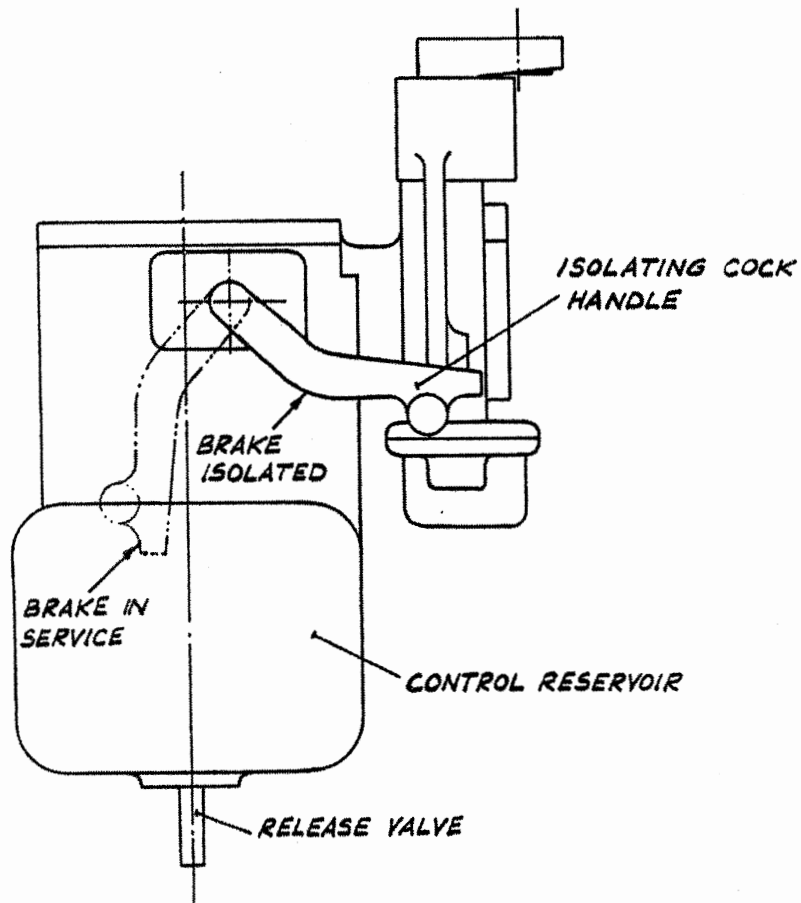

FIG. 15.
(c) Distributor (See Fig.15)
When necessary the auxiliary reservoir can be vented to atmosphere by placing the distributor isolating valve in the horizontal or "isolated" position (See Fig. 15)
- (d) Check that the three distributor isolating cocks on the unit are open, cock handles to be downwards at 30° to the vertical (See Figure 15) and that the  $\frac{1}{2}$ " isolating cocks between the M.R. pipe and strainer check valve and choke units are open (cock handles to be in line with pipe)